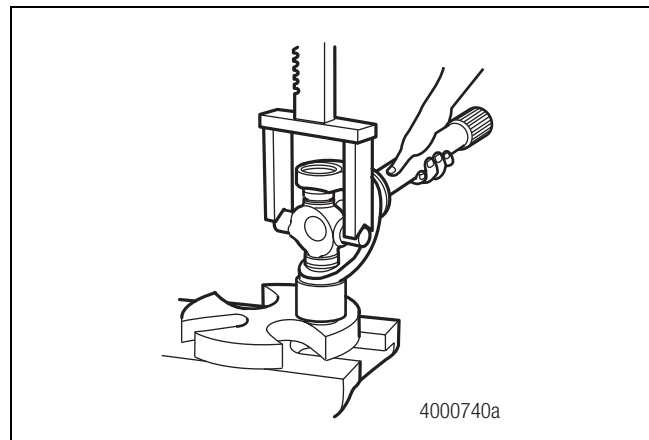

Figure 4.17
7. Turn over the universal joint. Repeat the procedure for the opposite side of the universal joint. Figure 4.17.